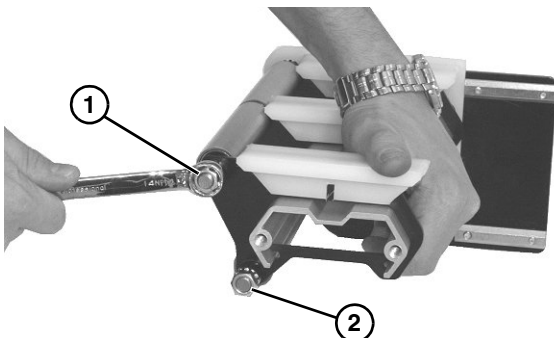

Figure 43
5. Remove upper nut (**Figure 43, item 1**) and spacer from end of axle shaft assembly.
6. Remove lower nut (**Figure 43, item 2**) and spacer from lower axle shaft assembly.